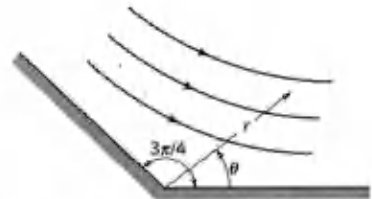

FIGURE P6.9R
6.9R (Inviscid flow) The stream function for the flow of a nonviscous, incompressible fluid in the vicinity of a corner (Fig. P6.9R) is